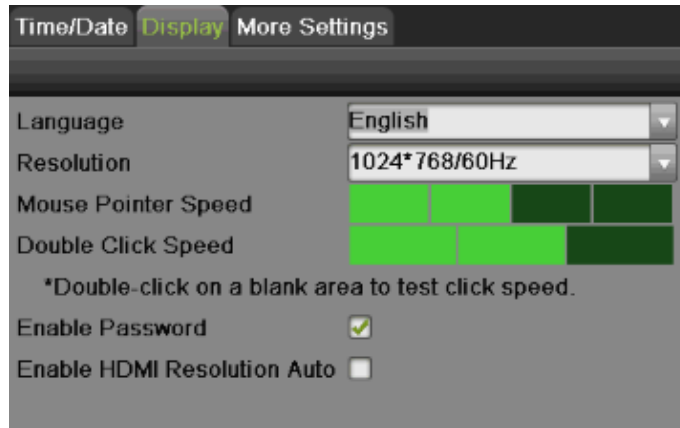

Figure 58 Display Menu
1. Set language, CVBS output standard, resolution and so on by going to Menu > System Configuration > General > Display, as shown in Figure 58.